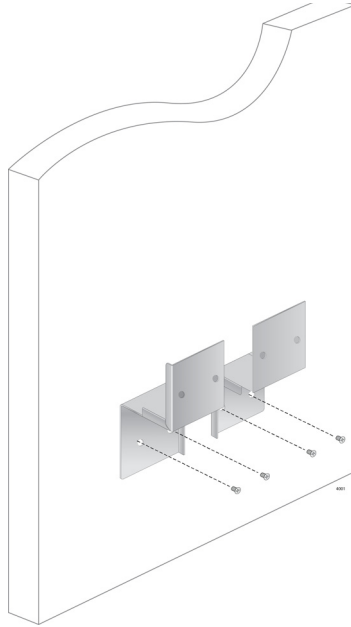

Figure 32. Driving the Screws through the Holes
5. Position brackets on the wall and drive screws through the holes to attach the brackets on the wall. See Figure 32.